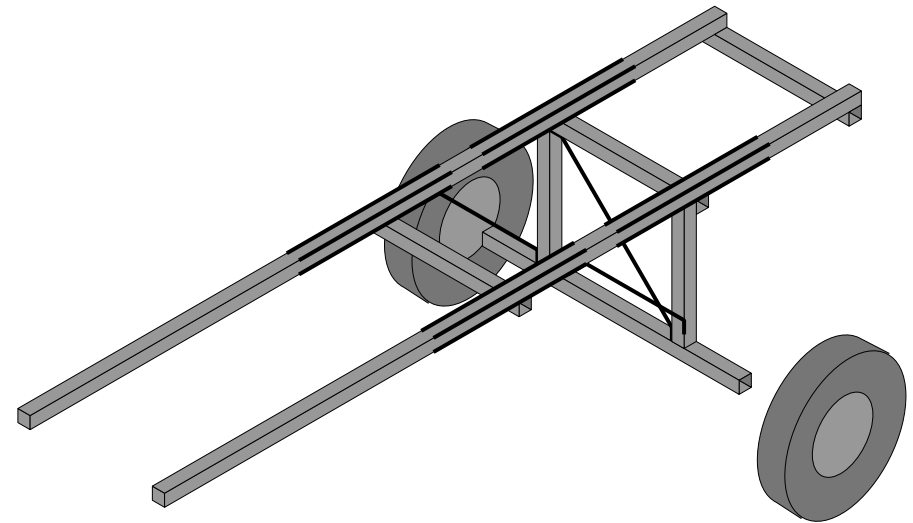

Figure 5: cart frame before planking.
- 5) Next you need to weld on the various reinforcements to the square tube. These are the axle braces and the pieces where the shafts might get broken - over the axle supports and at the front of the load tray/ wooden planking. Figure 5